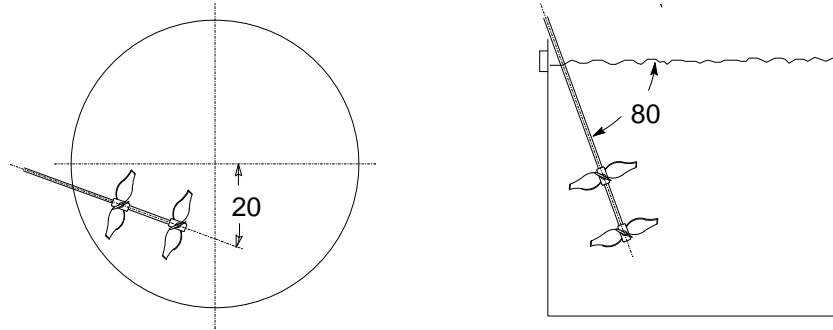

Figure 3 – "P" Units: Recommended Angular Positions
2.5 Refer to Figure 3 for recommended angular positions for "P" units.